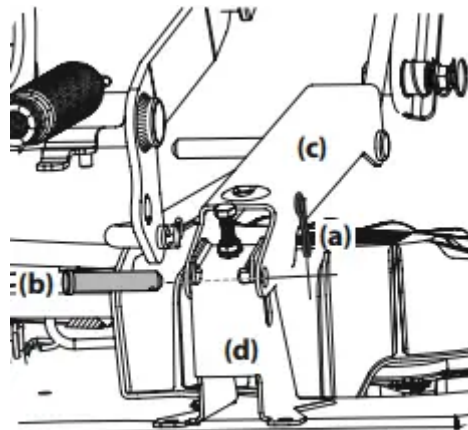

Figure 41
a. Remove the two bow-tie pins (a) from the clevis pins (b) that secure the lift link brackets (c) to the rear deck lift brackets (d) on the deck. Remove the clevis pins (b). See Figure 41.